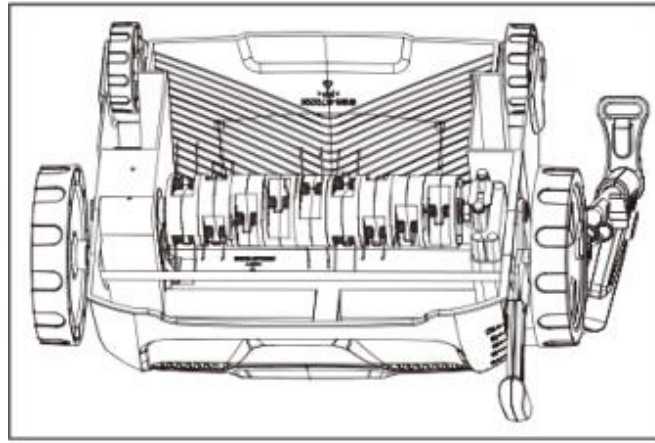

Fig. 17
5. Check the reliability of the installation (see Fig. 17).